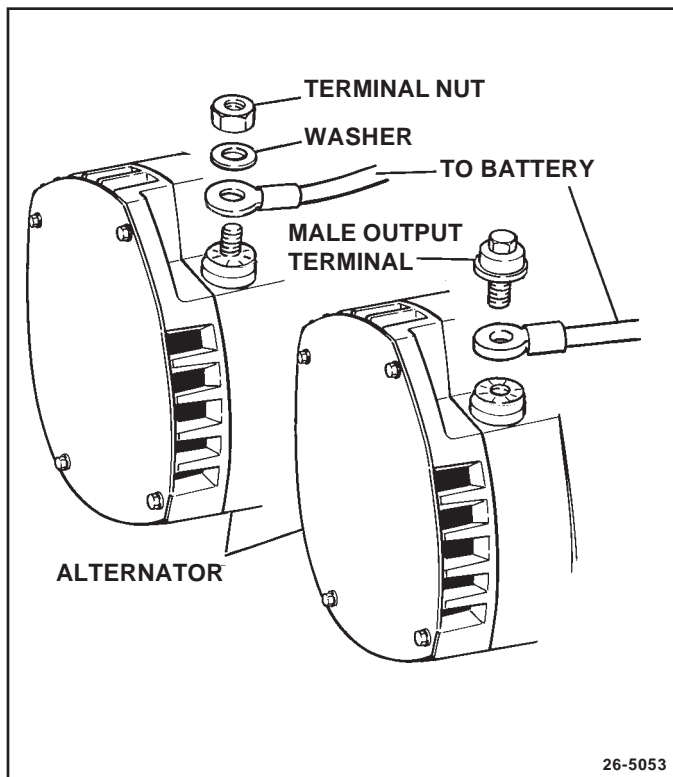

Figure 54. Connecting to Output Terminal
12. Battery cable to output terminal, using insulated output terminal bolt or lock washer and output terminal nut as applicable. (See Fig. 54) For insulated type, use